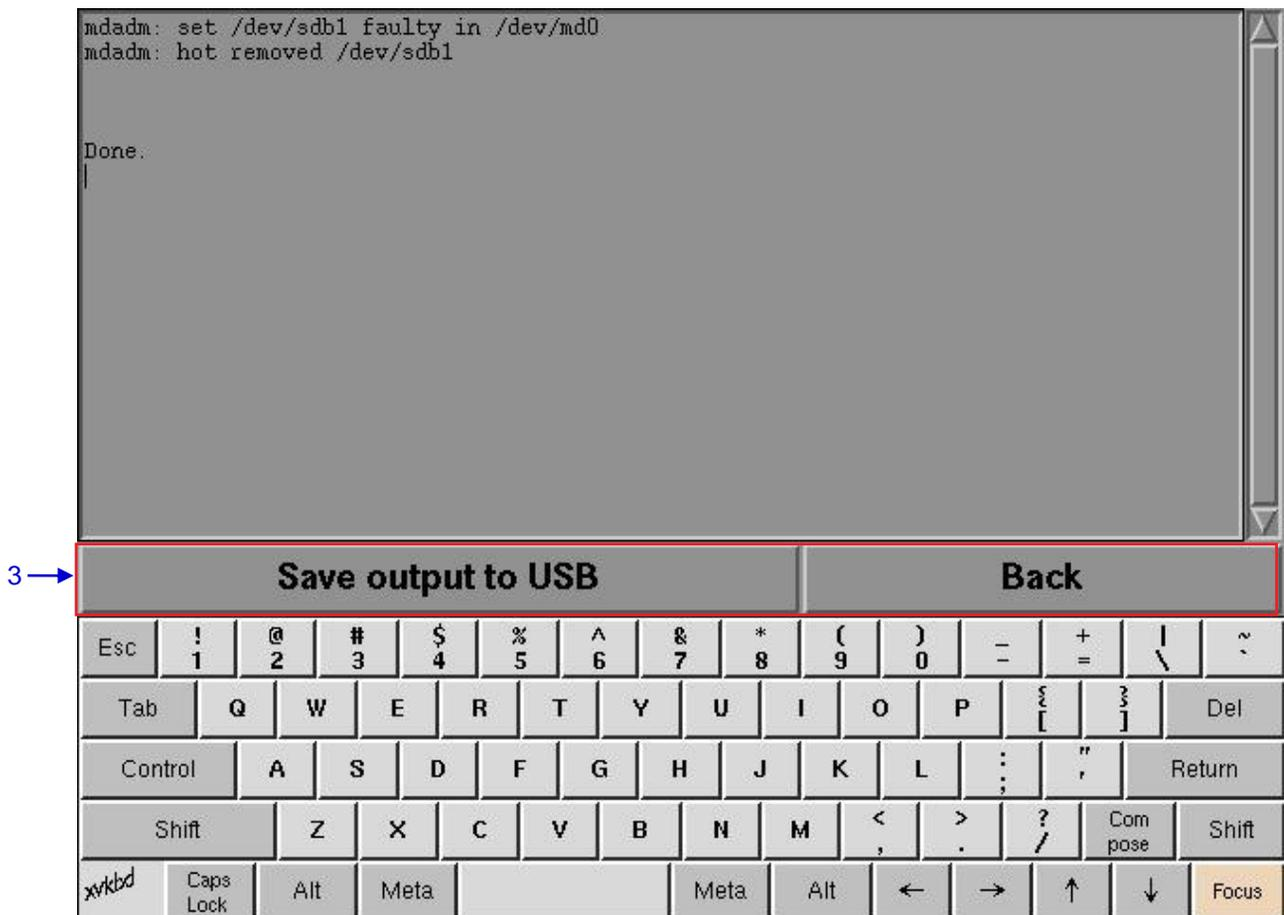

Figure 84 Confirming the removal of selected hard disk.
- 2 Select the hard disk to remove from RAID and then click the **Select** button. A new window will appear to confirm that the hard disk has been removed as seen in Figure 84.